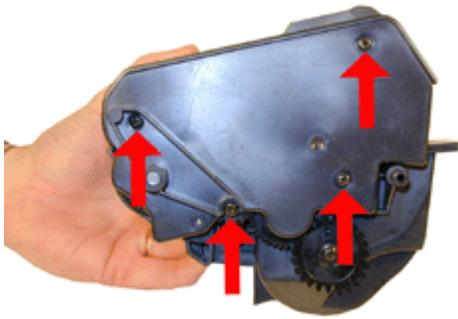

FIGURE 3
1. On the gear side of the cartridge, remove the four screws on the end cap. See Figure 3